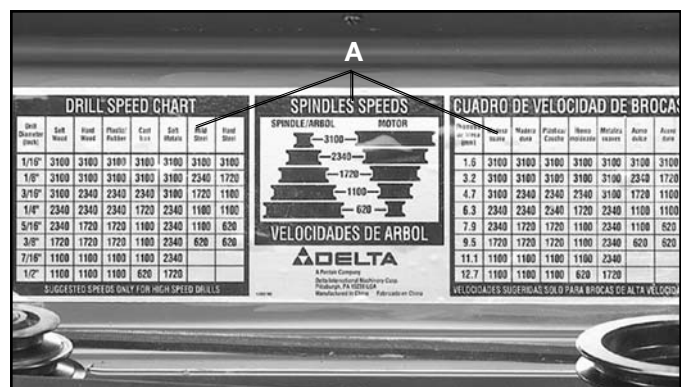

Fig. 22
A belt positioning and speed chart (A) Fig. 22, is conveniently located on the inside top cover of the drill press for your convenience.
⚠️ WARNING: Use the recommended speed for the drill press bit and workpiece material. As a guideline for the speed to use for different drill diameters and materials, refer to the chart (A) Fig. 22, located on the inside top cover of the drill press for your convenience.